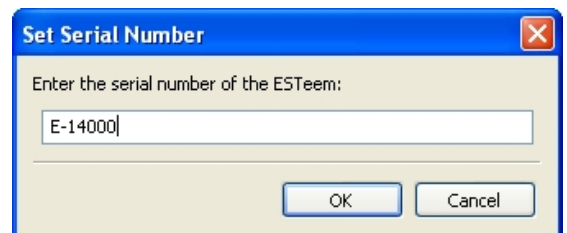
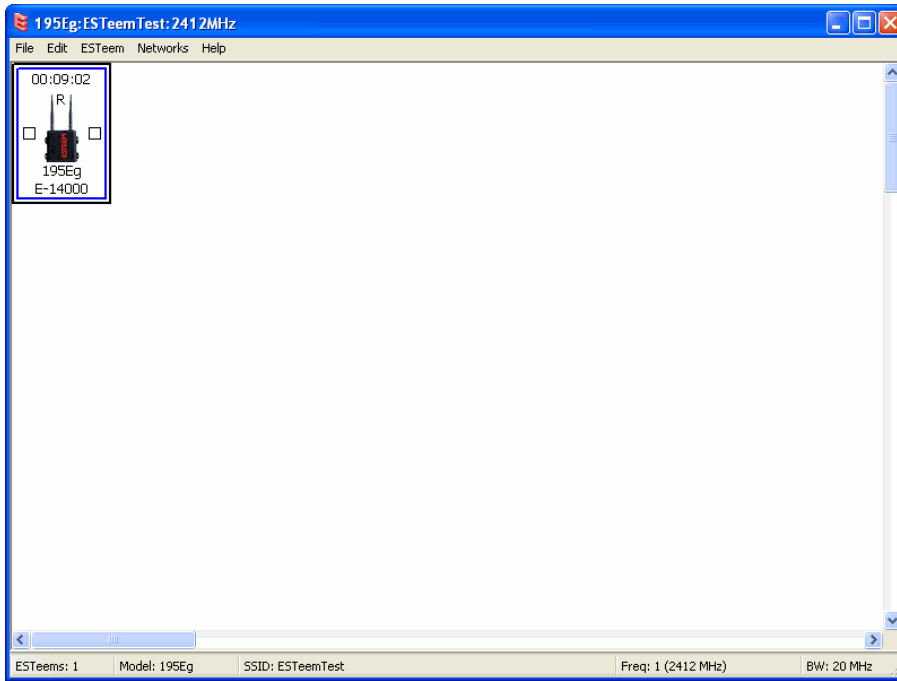

Figure 10: Enter the Serial Number
Figure 11: Main Office ESTeem 195C/M
2. Enter in the ESTeem Model 195C/M serial numbers used for the example (for example enter E-14000 in the Set Serial Number Box) and press the OK button (Figure 10). The ENC Utility will look up the ESTeem 195C/M's serial number in the database and match the correct Wireless LAN MAC (WLAN MAC) address to the modem. This WLAN MAC address will be displayed above the modem symbol on the screen (Figure 11).